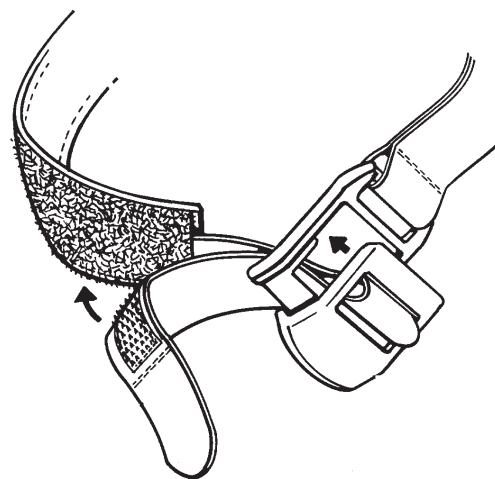

Figure 2-18. Chinstrap
- Fasten and adjust the chinstrap as shown in Figure 2-18. Center chinpad under chin; tack chinpad into place using suitable thread.